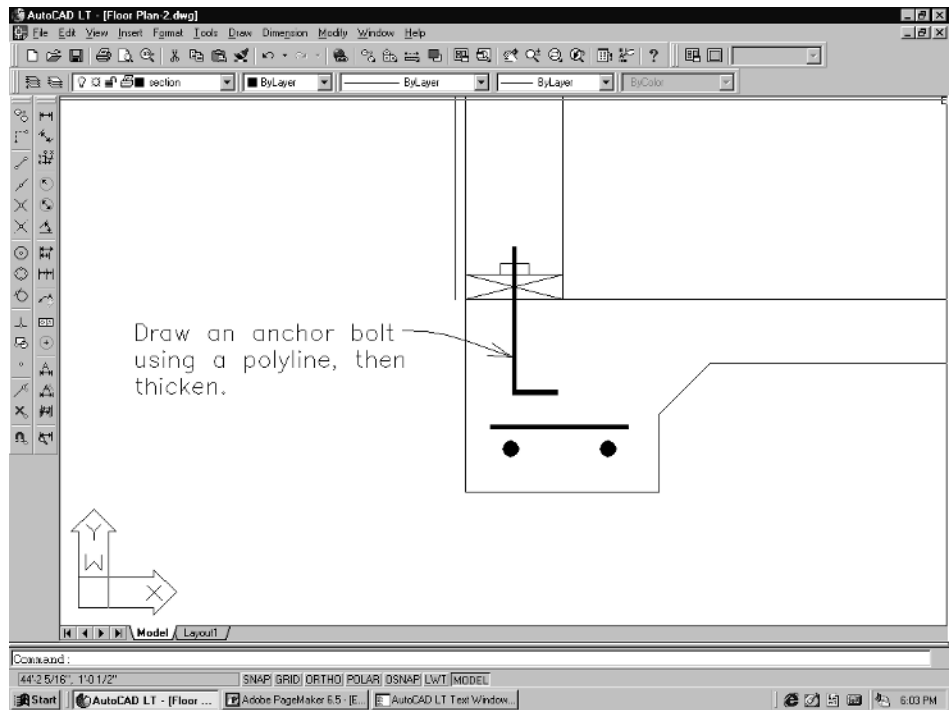

Figure 3-76
10. Draw an anchor bolt using a polyline as shown in Figure 3-76. Change the thickness the same way as you did with the cross tie. The bolt does not have to be precise, as this footing will be one of the details you will draw in a later chapter. Details are usually drawn at a much larger scale, so you can save time here by approximating the look but not spending a whole lot of time making sure it is exactly 8" long, etc.